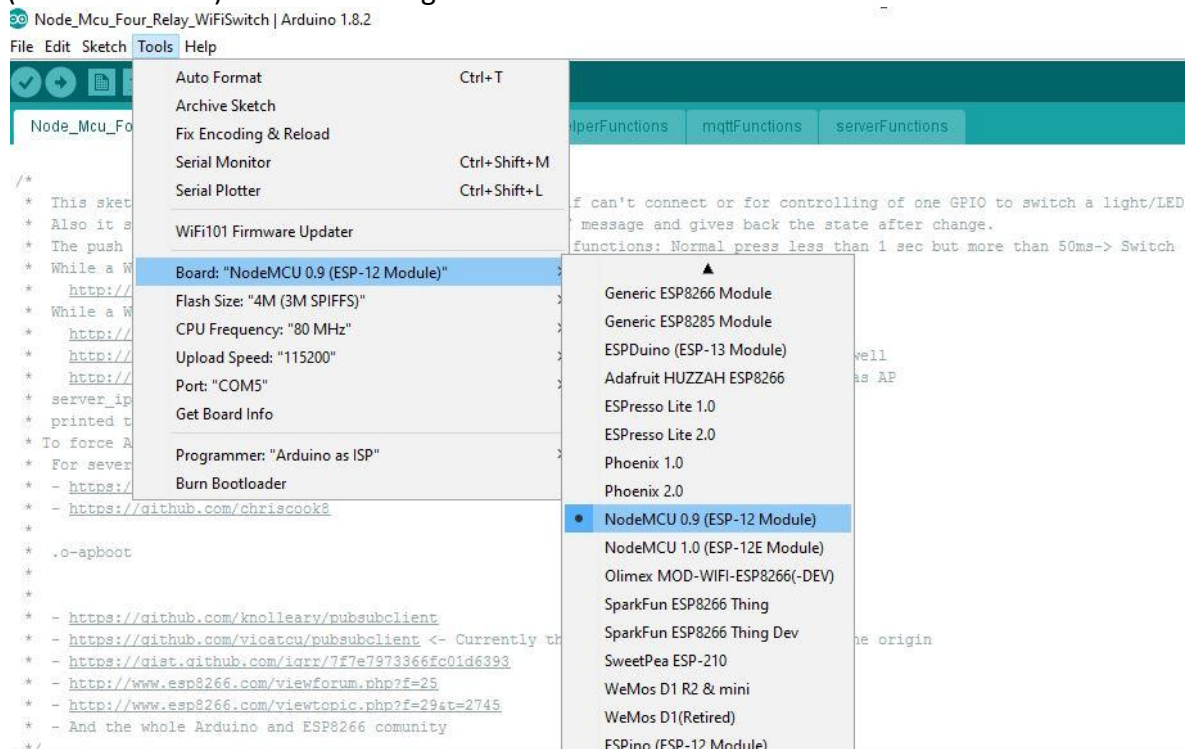

Figure 14: Board Selection
9. Click on Tools Tab, move mouse pointer on "Board: xxxxxxxxxxxx" and click on "NodeMCU0.9 (ESP-12 Module)" as shown in figure 14.